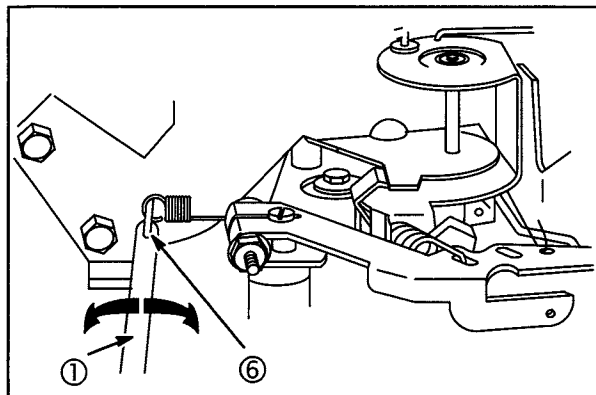

Fig. 43
- Use tang bender (1) to bend governed idle tang (6) to obtain RPM shown, Fig. 43: